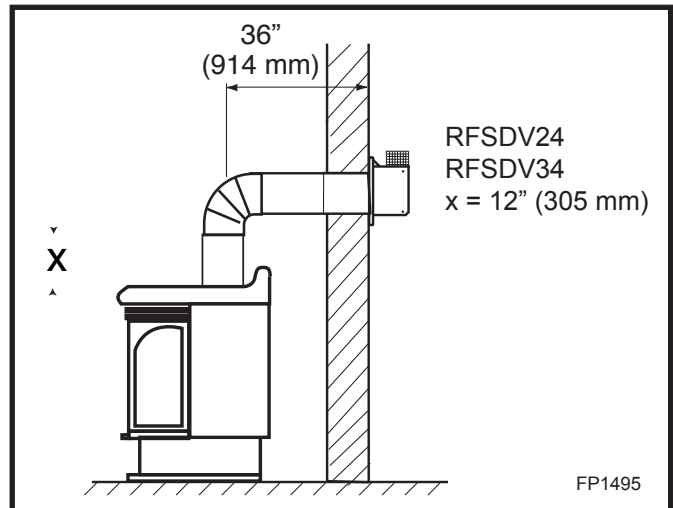
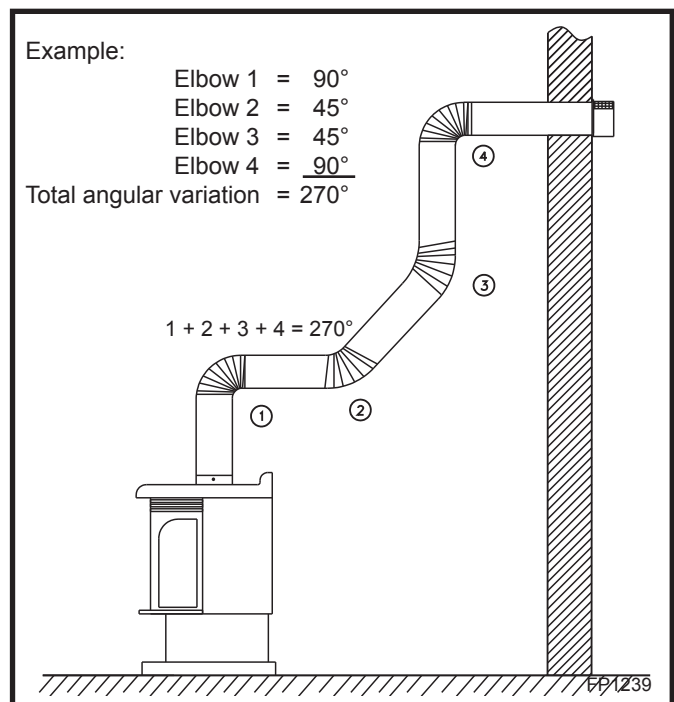

Fig. 9 Maximum horizontal run.
Fig. 12 Maximum elbow usage.
- The maximum number of 90° elbows per side wall installations is three (3).
- For RFSDV24 and RFSDV34 models, the maximum horizontal run for a minimum 12" (305 mm) vertical rise is 3' (914 mm). (Fig. 9)
**Example:** According to the chart the maximum horizontal vent length is 20' (6 m). However, if a 90° elbow is used in the horizontal vent, maximum horizontal vent length is reduced to 17' (5.2 m). In Figure 9, the total of Dim. A and Dim. B must not exceed 17' (5.2 m).
- The maximum number of 45° elbows permitted per side wall installation is two (2). These elbows can be installed in either the vertical or horizontal run.
- The maximum number of elbow degrees in a system is 270°. (Fig. 12)